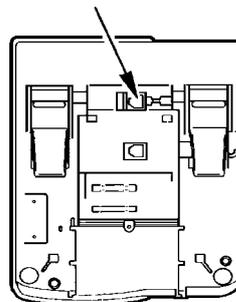

Figure 8-2 Connect an ETW-type Multiline Terminal to the Xen system
2. Lead the cord out through the cord groove as shown in *Figure 8-2 Connect an ETW-type Multiline Terminal to the Xen system.*